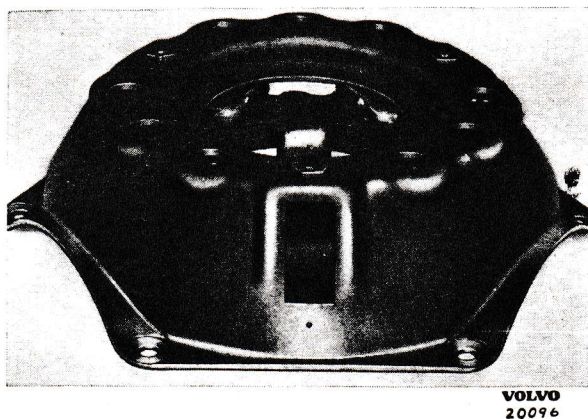

Fig. 5. Marking of clutch cover and pressure plate.
1. Mark the clutch as shown in Fig. 5.
4. Place the six pressure springs (24) in position. (The springs should be arranged so that black ones and unpainted ones come alternately.)
5. Ensure that the three springs (1, Fig. 10) for the clutch levers are in position and place the clutch cover casing (21) over the six pressure springs in the position previously marked, Fig. 5.
6. Place on the 3-point support, arms, thrust rods and wrench. Press down the clutch cover casing until it contacts the bottom plate all round. Place the adjusting nuts on the eyebolts (32) and screw them on to full nut width. The clutch is now ready for adjusting.